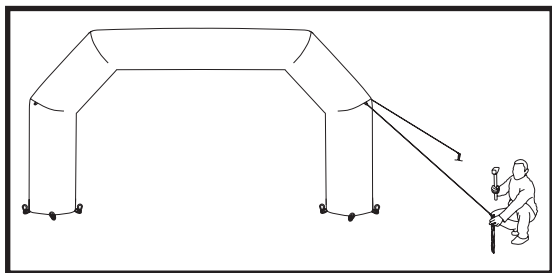

Fig. 5
8. Clip the other end of the line to the torsion anchor and hammer it into the ground. Stretch the rope. (Fig. 5). Repeat for each rope.